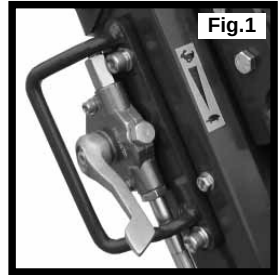

Fig.1
1. To stop the engine, set the throttle control to idle (See Fig. 1), then pull red stop handle until the engine stops (See Fig. 2).